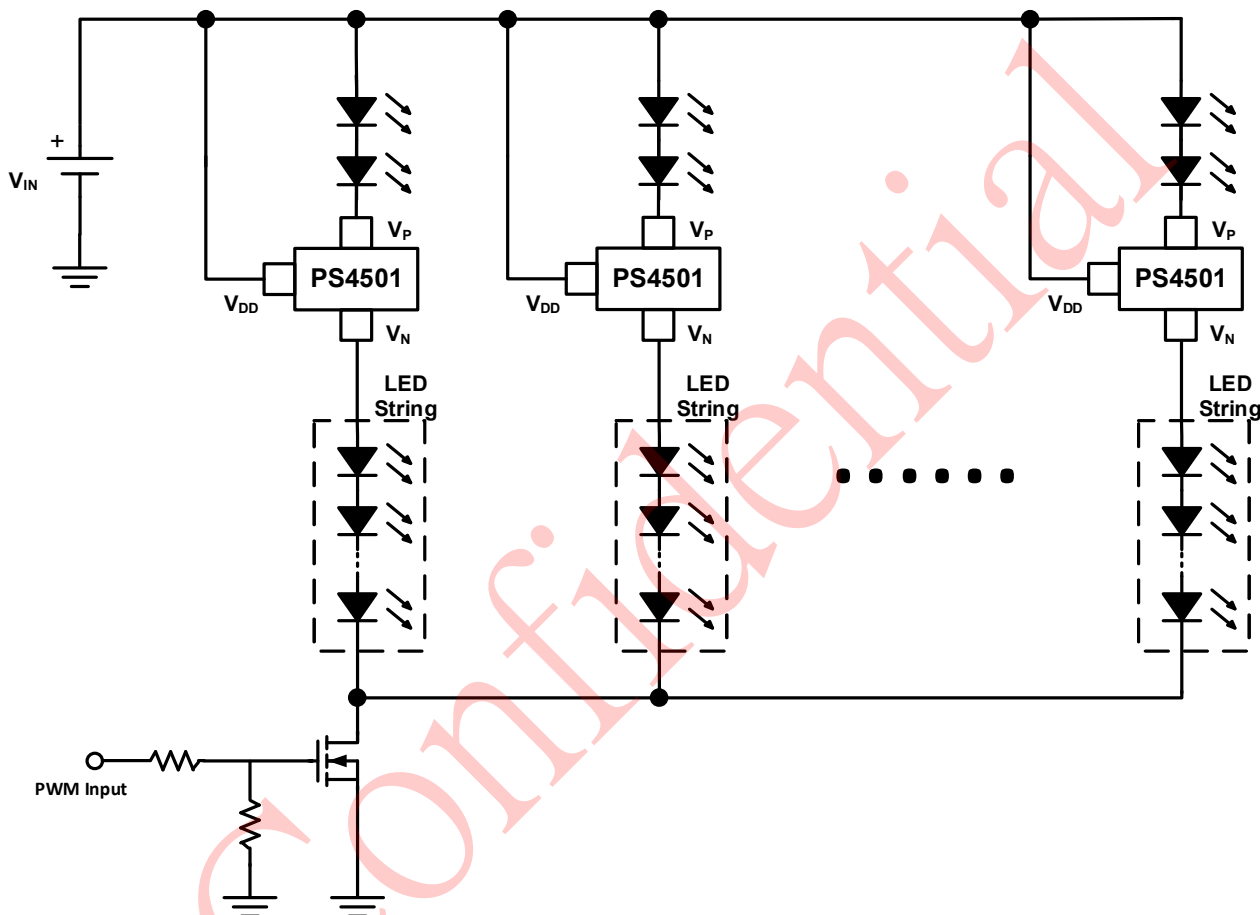
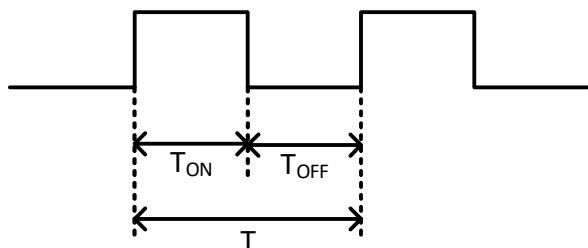
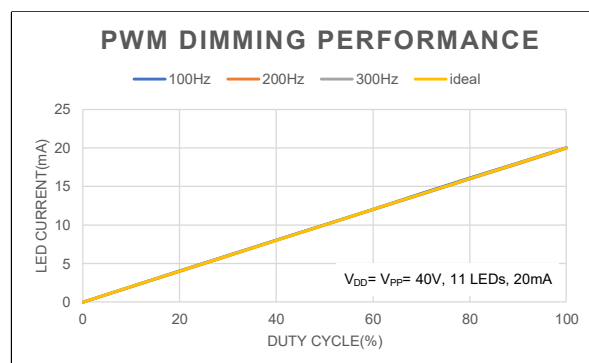

Figure 11. LED strings PWM dimming by external MOSFET
Figure 12. PWM dimming signal
Figure 13. Current accuracy vs PWM dimming
The LED dimming can be easily achieved by placing an external MOSFET in series with PS4501 and the dimming effect can be achieved by adjusting the PWM duty cycle, as shown in Figure 11. Besides, duty cycle is expressed as below and that is a ration of LED turn-on time (T_{ON}) dividing the total time of an on/off cycle (T) which is shown in Figure 12, and Figure 13 shows the current accuracy with different duty cycle.